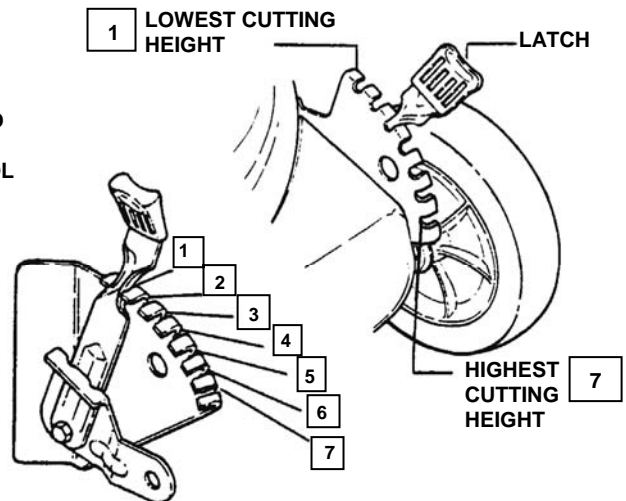

FIGURE 2.6
1. Pull the height adjusting latch outward and move to desired cutting height. See Figure 2.6.
2. Set all wheels at the same cutting height. The highest cutting position is Notch 7. The lowest cutting position is Notch 1. See Figures 2.6 & 2.7.